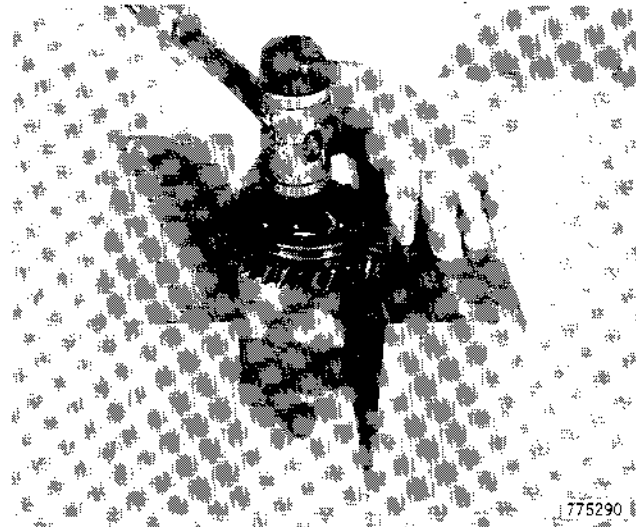

Figure 14
9. Turn gear over and tap ball bearing out with a soft hammer, Figure 14.